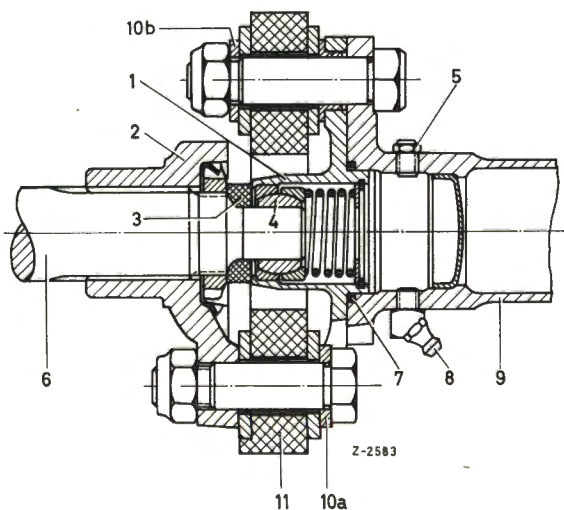

Fig. 26-1/5
8. Disconnect the propeller shaft (9) at the transmission; the shaft plate (11) remains attached to the transmission (Fig. 26-1/5).